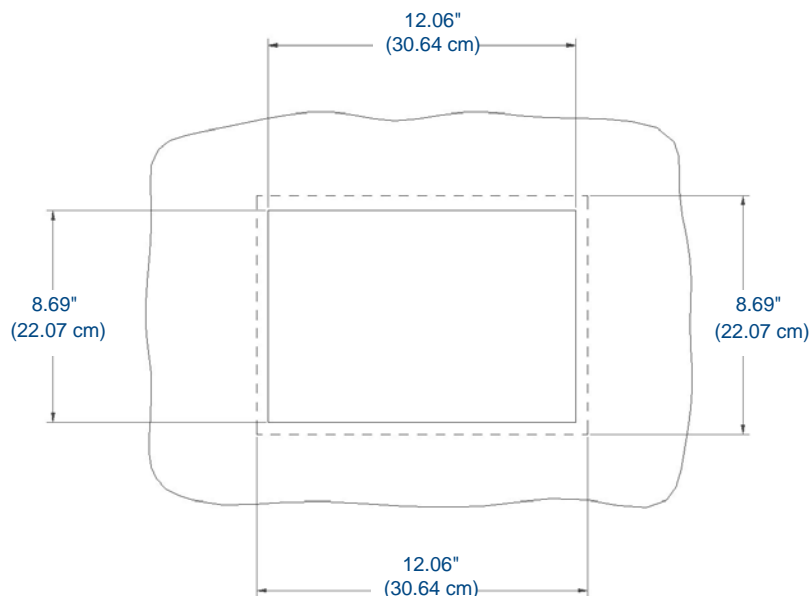

FIG. 12 Recommended cutout for the MVP-WDS-9 plastic back box
1. Cut a hole into the wall or surface intended to hold the back box. The back box is sized 12 1/16 inches (30.64 cm) long and 8 11/16 inches (22.07 cm) high, so the hole should be at least 1/4” (6.4mm) smaller in each dimension (FIG. 12). Use the included MVP-WDS-9 Wall Docking Station Template (**68-5967-01**) as an aid for hole placement and measurement.